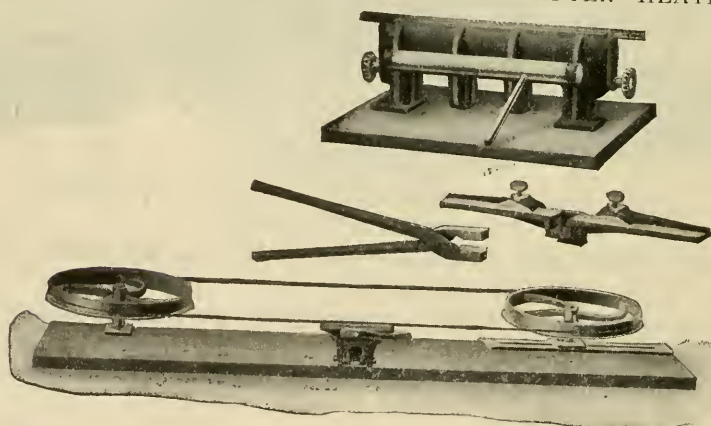
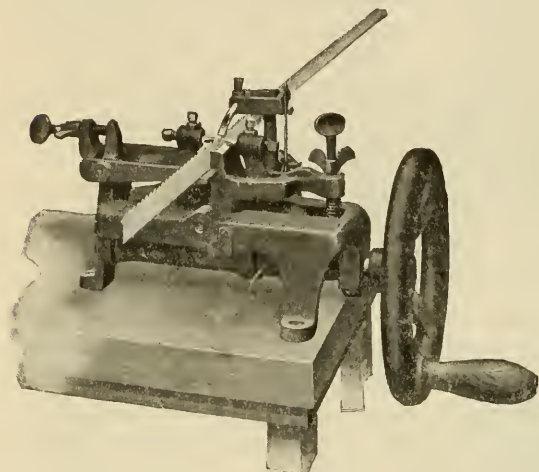

Fig 41 — WHEELS AND CLAMP FOR HAND FILING. (LARGER SCALE VIEW OF CLAMP AND BRAZING TONGS AT TOP.)
Fig. 42. - NARROW BAND SAW
43. Setting and Filing-- When small band saws are set by hand the process is very much like that of setting and filing an ordinary cross-cut hand saw. But to do this conveniently, it is necessary to have two large wheels (either wood or metal) and a vise, Fig. 41, on which to hold the band saw while fitting. The more common method however, is to use a machine for setting and an automatic machine for filing. A narrow band saw setting machine is illustrated in Fig. 42. This machine sets all of the teeth uniformly and may be adjusted to set saws $\frac{1}{8}$ " to $1\frac{1}{2}$ " in width with the teeth spaced 1-16" to $\frac{5}{8}$ ". The vise automatically grips the blade while the teeth are being set and prevents in this way the twisting of narrow saws.
This machine is intended for a power drive or may be arranged to drive by hand. It will take saws of the same specifications as the setting machine in Fig. 42.